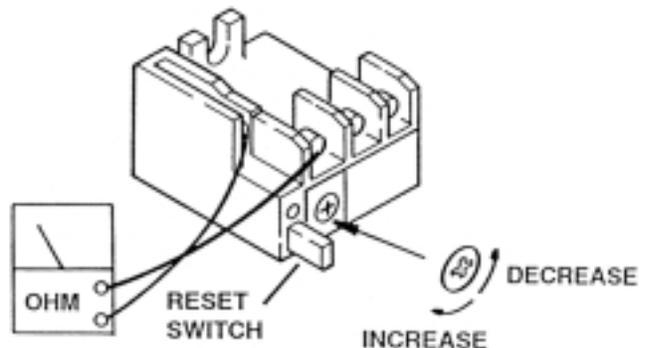

Figure 7-26. Thermal Relay
2. Use an ohmmeter to test for continuity between terminals 7 and 8 on the Thermal Relay. See figure 7-26.
4. The Thermal Relay should activate after 1-1/2 to 2 minutes of continuous pump operation. If necessary, adjust the thermal cut-out time by turning the adjustment screw clockwise to increase the time, counterclockwise to decrease the time. Refer to figure 7-26.